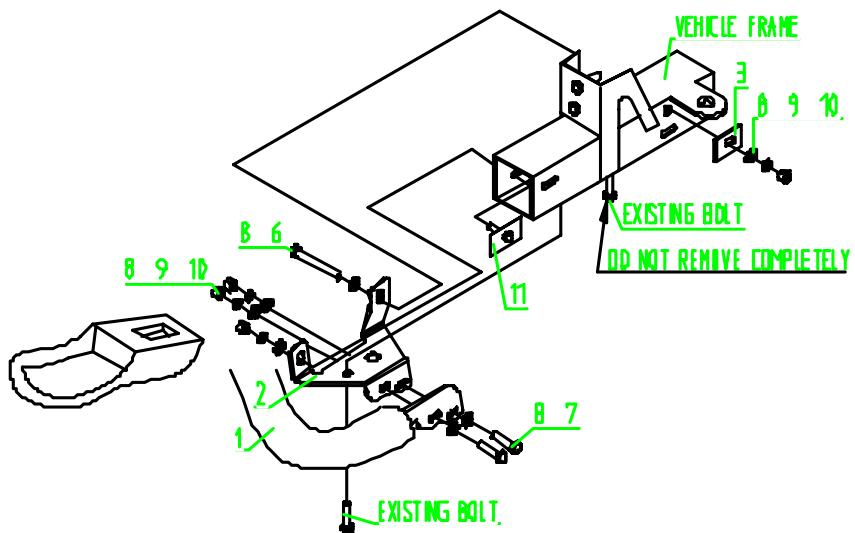

FIGURE 3 INSTALLATION VIEW OF DRIVER SIDE ,PASS ENGER SIDE OP PPSITE
STEP 4. Determine passenger driver brackets. Attach brackets using mount plates, bolt plates, and 1/2 " fasteners as shown. Bolt plates will be inserted from the end of the frame rail. Hand tighten. Rein stall front tow hook bolt and torque to 60 FT.LBS and 1/2 " fasteners to 65 FI.LBS. SEE FIGURE 3.